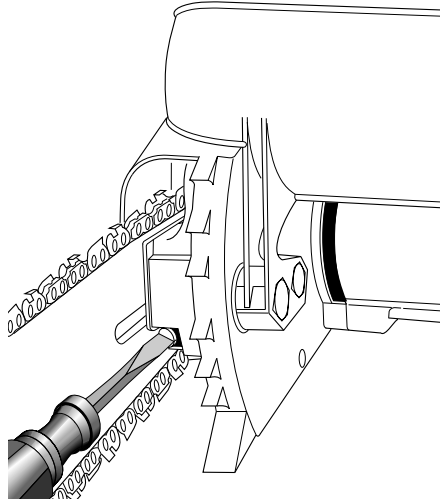
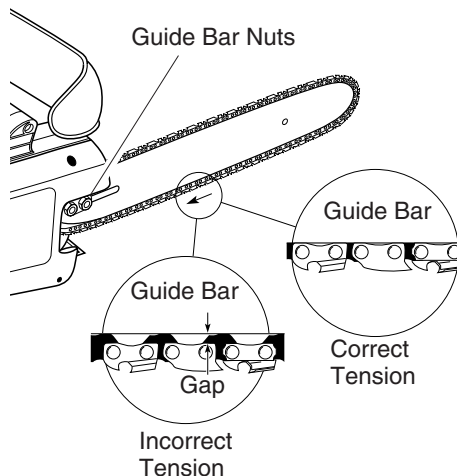

Figure 5 - Turning Adjusting Screw
Figure 6 - Saw Chain Adjustment
2. Turn adjusting screw clockwise until all slack is out of chain (see Figure 5). *Note:* There should be no gap between side links of chain and bottom of guide bar (see Figure 6).